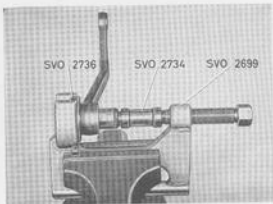

Fig. 6-65. Removing rubber bush, relay arm
4. Secure the press tool 2699 in a vice and press out the bush with counterhold 2736 and drift 2734 (Fig. 6-65).